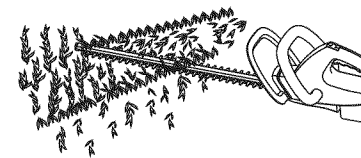

Fig. 5
- When trimming new growth, use a wide sweeping action, so that stems are fed directly into the trimmer blade (Fig. 5). Older growth will have thicker stems and will be trimmed easiest by using a sawing motion.